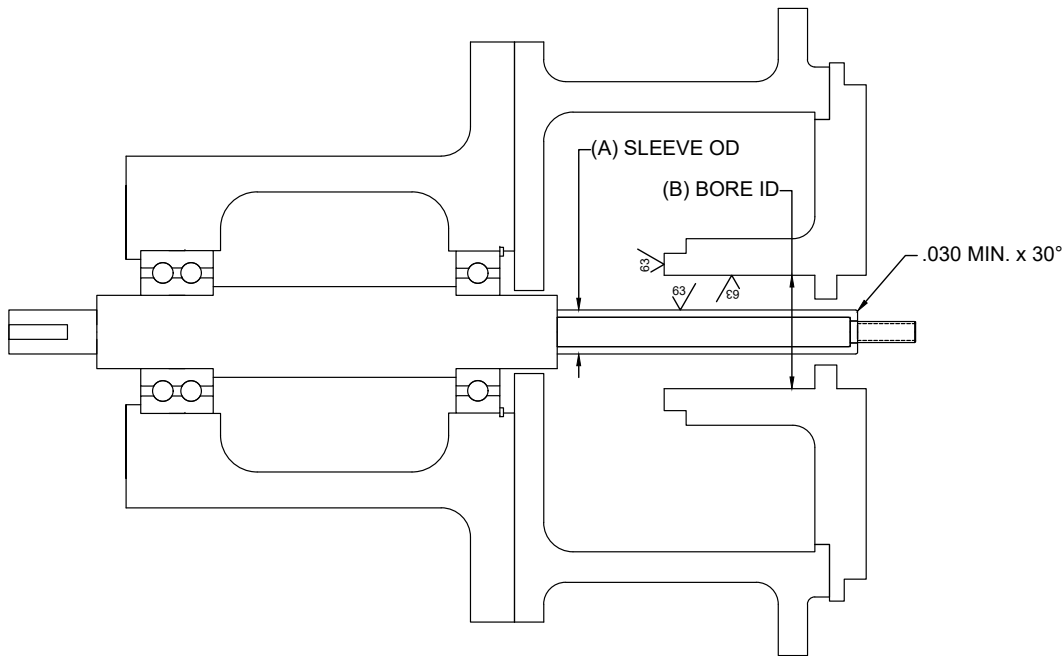

Figure 1: Surface finish and chamfer locations. Fully assembled pump without seal.
5. Sealing surfaces and shaft or shaft sleeve must have at least a 63 Ra-µin surface finish as seen in Figure 1.
6. For ease of installation, the leading edge of the shaft or sleeve should be chamfered as shown in Figure 1 and all parts should be deburred.